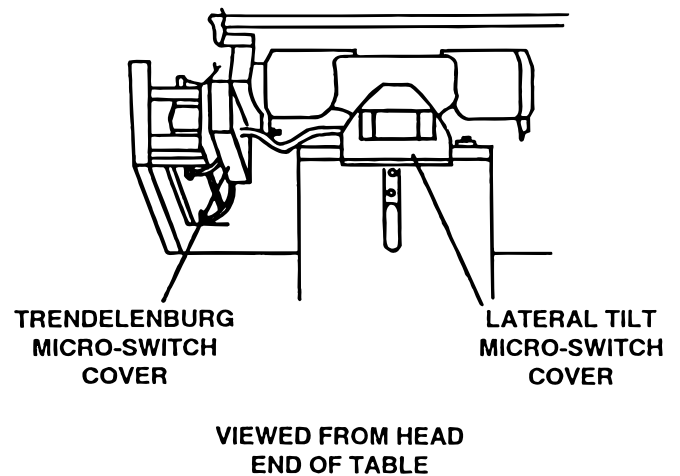

Figure 5-17. Micro-Switch Covers
2. Remove micro-switch covers (refer to figure 5-17), carefully loosen the switch retaining screws, and adjust the switches as needed. See figure 5-18.